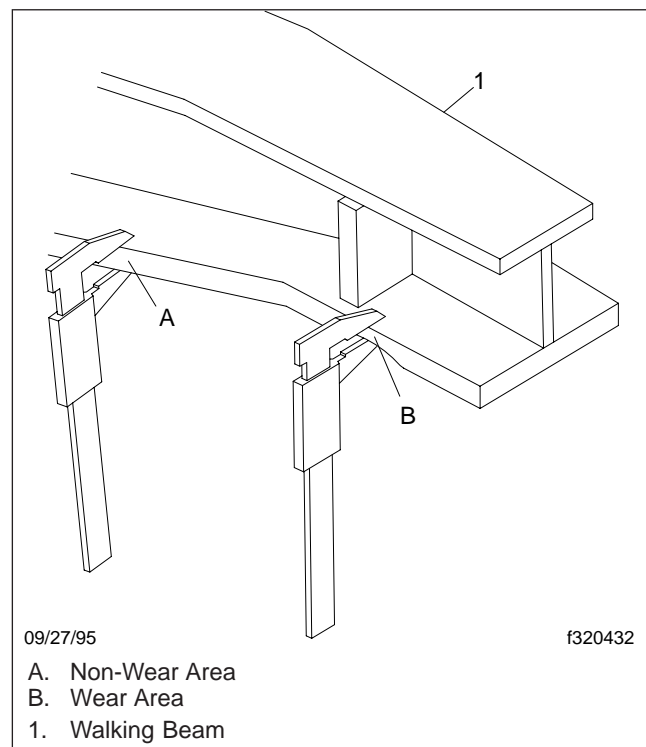

Fig. 8, Walking Beam End Wear Thickness
4. Manipulate the walking beam so that a micrometer, vernier, or dial caliper can be used to determine the wear area thickness on the bottom face. See **Fig. 8**. Measurements should be taken a minimum of 1/2 inch (13 mm) from the beam flange edges to eliminate any edge wear that may have occurred. Subtract the wear area thickness (see **Fig. 8**, Ref. B), from the non-wear area (see **Fig. 8**, Ref. A), to determine the amount of wear.